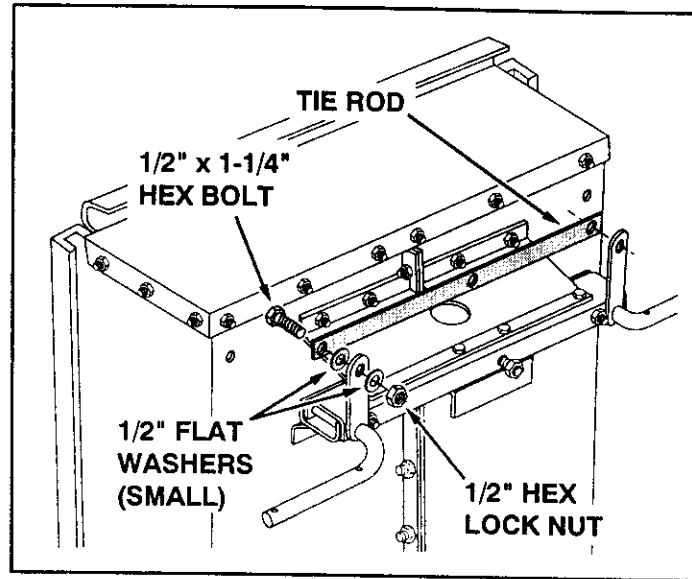

FIGURE 11
- Assemble the tie rod to both axle spindles using two 1/2" x 1-1/4" hex bolts, four small 1/2" flat washers and a two 1/2" hex lock nuts. **Tighten**, leaving loose enough that the spindles still pivot. See figure 11.